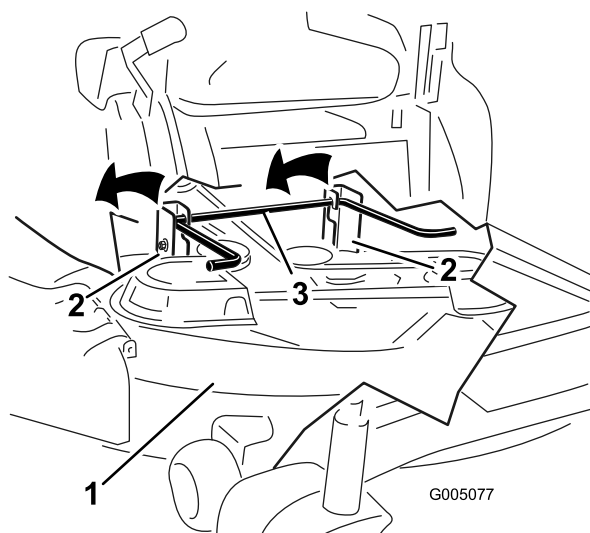

Figure 75
7. Lift the mower deck and hanger brackets clear of the rear lift rod and lower the mower carefully to the ground (Figure 75).
5. Lift the rear of the mower deck and guide the hanger brackets over the rear lift rod (Figure 75).